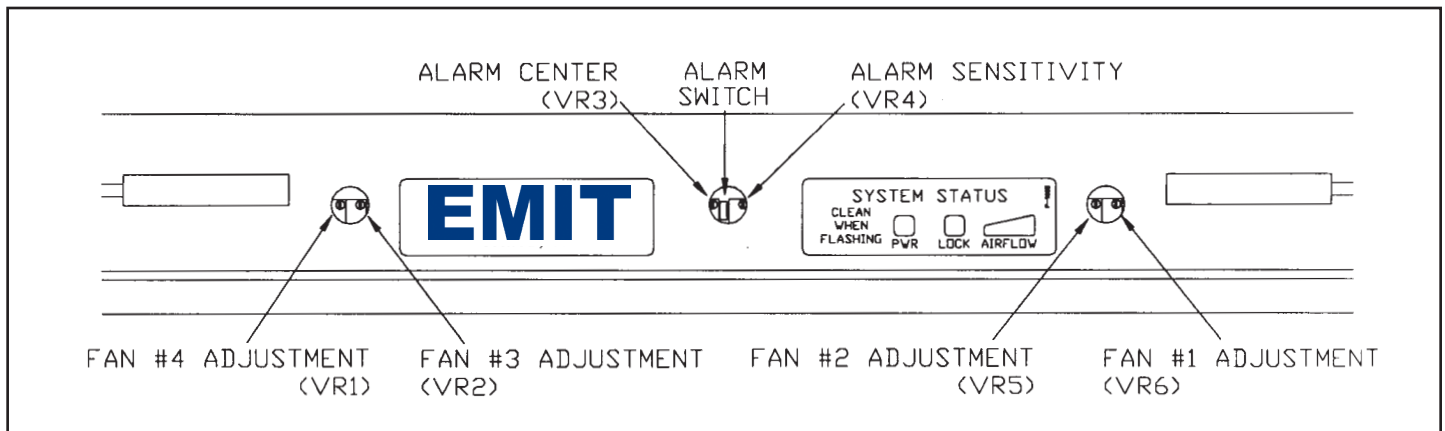

Figure 6. Calibrating C/E Ionizer
See figure 6.
- See figure 6. For VR (variable resistor) locations. Fans from right to left side are labeled 1 to 4. VR from right to left side are labeled 6, 5, 2 and 1. So if you have the CPA under fan 1, you are going to adjust VR6. Adjust VR6 so balance on CPA reads 0Volts @ +/-15Volts. Move the CPA from fan 1 to next fan, fan 2 and adjust VR5 to 0Volts @ +/-15Volts, repeat these set for all fans. All fans should be at 0Volts @ +/- 15Volts.